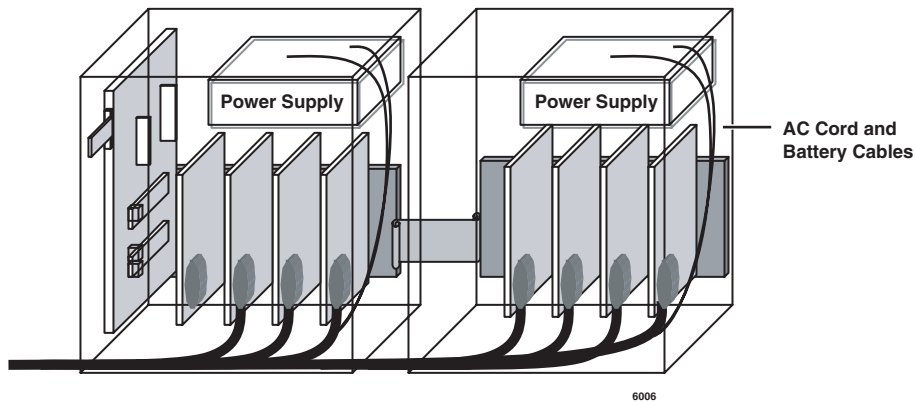

Figure 3-20 Single Direction Cable Routing
- Single Direction Cable Routing** – Cabling from the Expansion Cabinet can run through the Base Cabinet and exit from the Base Cabinet (see Figure 3-20).